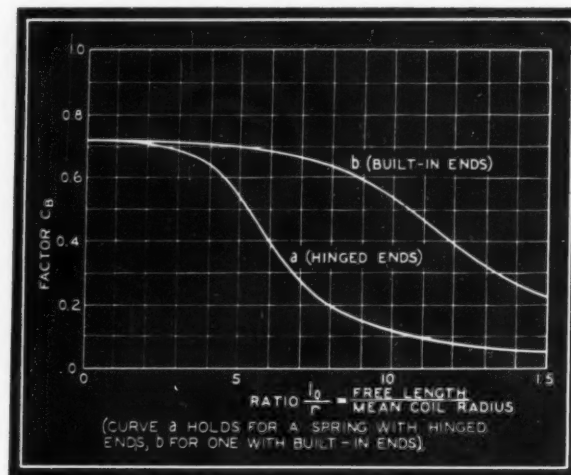
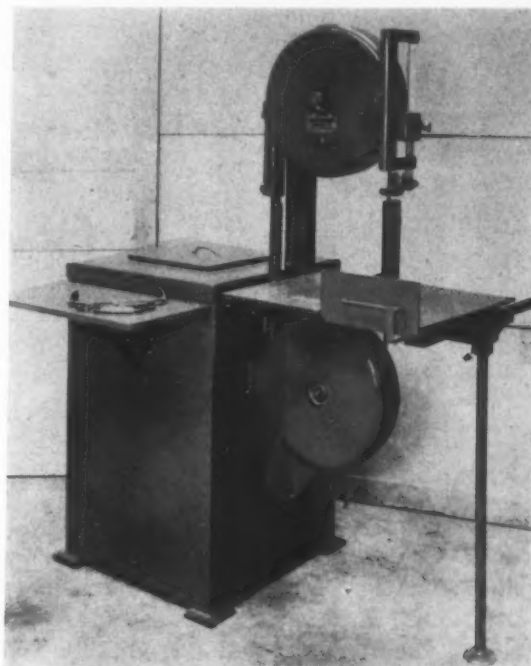

Fig. 6—Curves on graph enable designer to find buckling load factor
Fig. 7—Welded construction has eliminated useless dead weight from this dry ice band saw
Values of C_B are given by the curves of *Fig. 6*. The lower curve marked a shows values when the ends of the spring may be considered as hinged. Such would be the case if the ends were fastened to ball and socket joints. For cases where the ends may be considered as built-in (the ends being held so that no rotation occurs during motion of the spring) the upper curve marked b of *Fig. 6* may be used. In certain practical cases where the ends of the spring are only partially restrained from rotation, it is safest to use curve a which assumes hinged ends.
EXAMPLE CALCULATION OF BUCKLING LOAD—As an example of the use of the buckling load factor C_B , consider a steel helical compression spring of the following dimensions: Free length $l_o = 6$ inches, mean coil radius $r = 0.75$ inches, outside diameter = 1.75 inches, wire diameter 0.25 inches, active turns $n = 12$. From the chart of *Fig. 7*, Part II, for these dimensions⁹ we find $C_s=1700$ and $P/\delta=C_s/n=1700/12=142$ pounds/inch. From *Fig. 6*, the buckling factor C_B is found equal to 0.64 for $l_o/r=6/0.75=8$. (It will be assumed that the ends of the spring are completely restrained from rotation so that curve b of *Fig. 6* may be used). This is approximately true where the spring is compressed between parallel surfaces. Then from equation (5) the calculated buckling load is $P_{cr}=C_B l_o (P/\delta)=0.64 \times 6.0 \times 142=545$ pounds. Assuming a maximum working stress of 60,000 pounds per square inch, the actual load on the spring would be (from the chart of *Fig. 5*, Part II) $P=C_s/10,000=32 \times 6=190$ pounds. Under these conditions there is a considerable margin between the working load and the buckling load. If, however, the ends of the spring were hinged, so that no restraint due to rotation occurs, then using curve a of *Fig. 6*, $C_B=0.2$. In this case $P=C_B l_o (P/\delta)=0.2 \times 6.0 \times 142=170$ pounds. Hence, with this type of end fastening there would be danger of such a spring buckling before the working load of 190 pounds were reached.
And finally we come to *Fig. 7* which is a dry ice band saw. While designed for permanent location, the elimination of dead weight represented by its welded construction means saving in initial cost, saving in cost of setting up, and reduction of floor load.